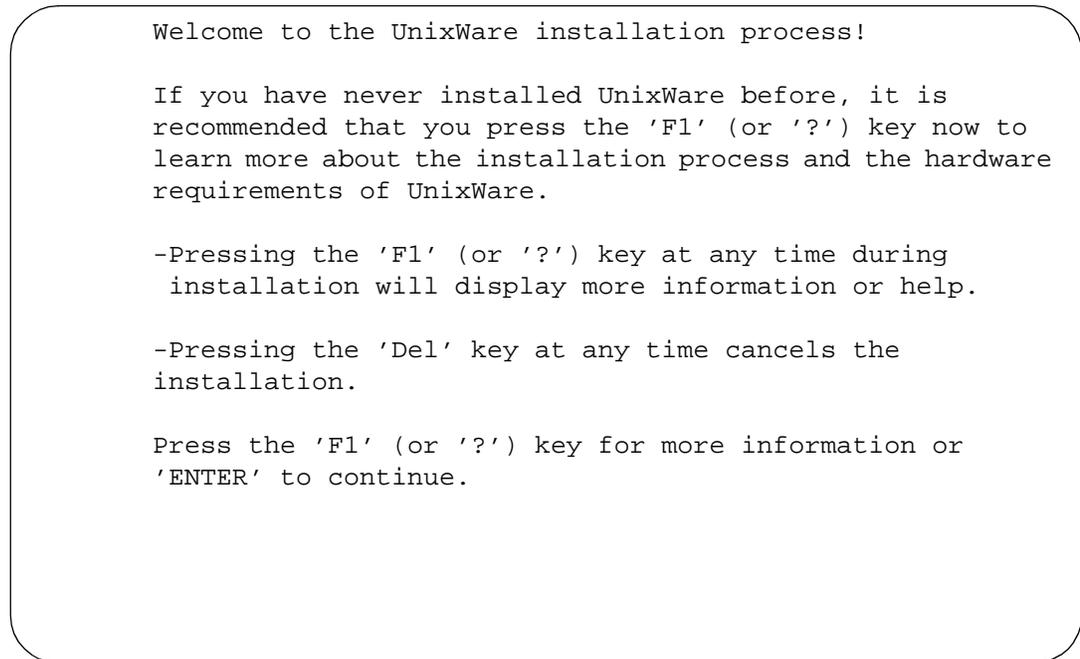

Figure 4-3. Introduction Screen
After approximately 2 minutes, the system displays the Introduction screen (Figure 4-3).
1. Starting at the Introduction Screen (Figure 4-3), press **ENTER**.